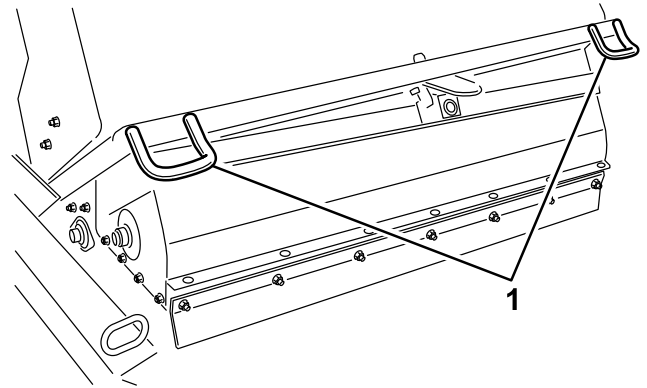
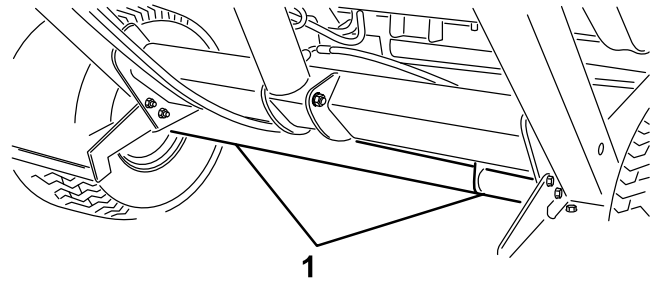

Figure 31
Figure 32
- When transporting the machine, use the tie-downs to secure the front of the machine (Figure 31) and the axle (Figure 32) to secure the rear of the machine to the trailer.